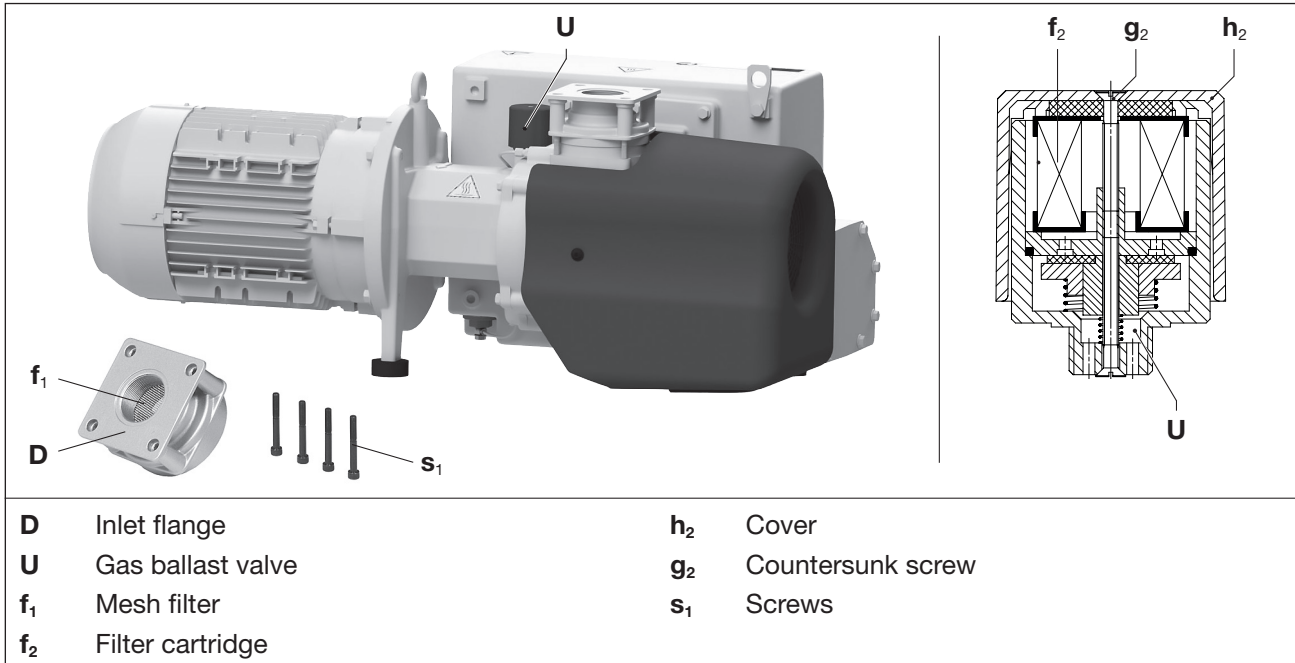

Fig. 6 Mesh filter and gas ballast valve
Depending on the pollution of the inlet medium, the mesh filter (Fig. 6/f1) has to be cleaned more or less by washing or blowing off or it must be replaced.
- Take off the suction flange (Fig. 6/D) after releasing the screws (Fig. 6/s1).
- Clean the mesh filter (Fig. 6/f1).
- Put on the suction flange (Fig. 6/D) and secure it with the bolts (Fig. 6/s1). Tightening torque: 25 Nm
The pumps work with a gas ballast valve (Fig. 6/U). The inbuilt filter cartridge (Fig. 6/f2) must be cleaned more or less often depending on how dirty the medium flowing through is.
- By undoing the countersunk screw (Fig. 6/g2) and removing the plastic cover (Fig. 6/h2), the filter parts can be removed for cleaning.
- Clean the filter cartridge (Fig. 6/f2) by purging or replace it.
- Insert the filter cartridge (Fig. 6/f2) into the valve, put on the plastic hood (Fig. 6/h2) and secure with the countersink screws (Fig. 6/g2). Tighten the screw by hand.